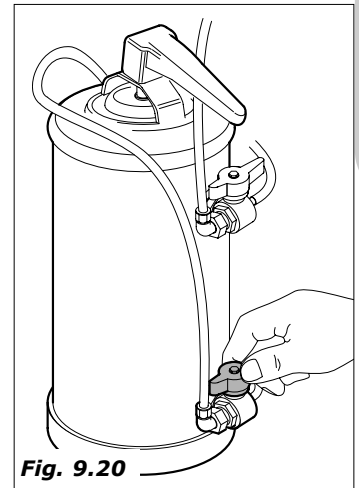

Fig. 9.20
- switch on the machine and let the water pour out until it is no longer salty.(Fig. 9.20).